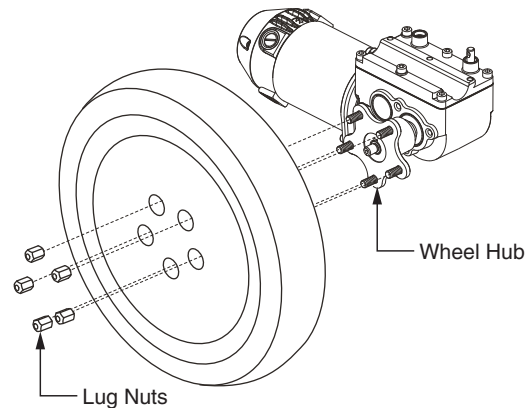

Figure 15. Quantum 4Front Drive Wheel
4. Remove the five (5) lug nuts from the wheel hub. **See figure 15.**